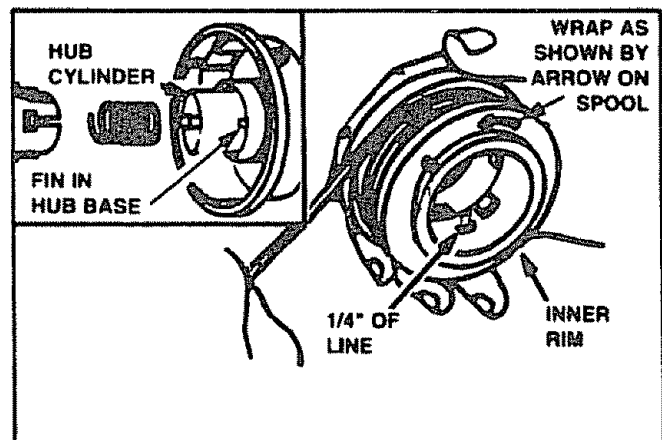

Figure 30
- Place the spring in the hub cylinder. Figure 30.
- Insert about 1/4 inch of the end of the line through the hole in the inner rim of the spool. Allow no more than 1/4 inch of line to extend beyond the rim to avoid interference with tapping action. Figure 30.
- If line breaks off or backs up in the semi-automatic head, follow "Installing Spool with Line Already Wound" steps. Pull slack in line until the line is tightly wound on spool, leaving 4-6 inches of extended line. Figure 30.